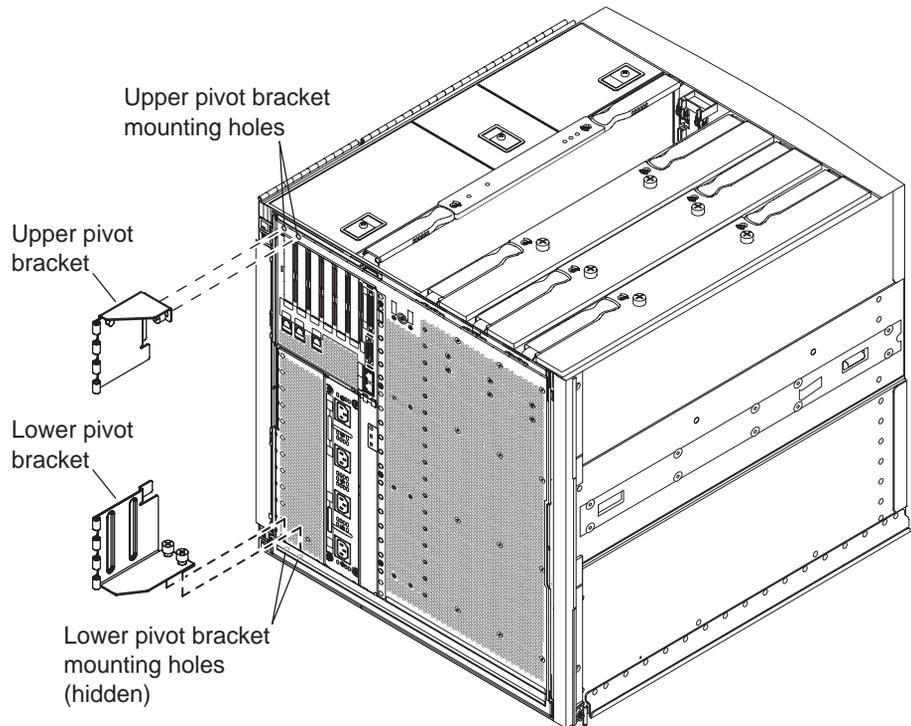
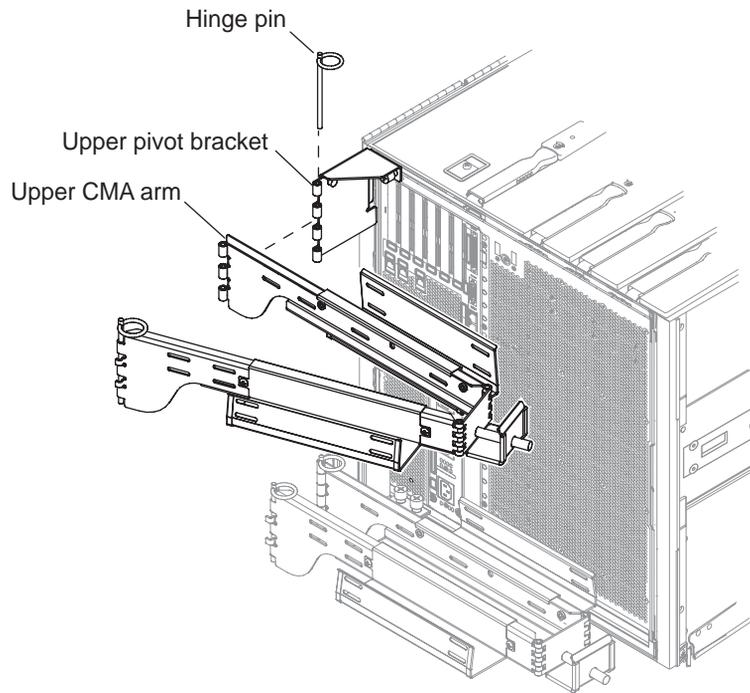
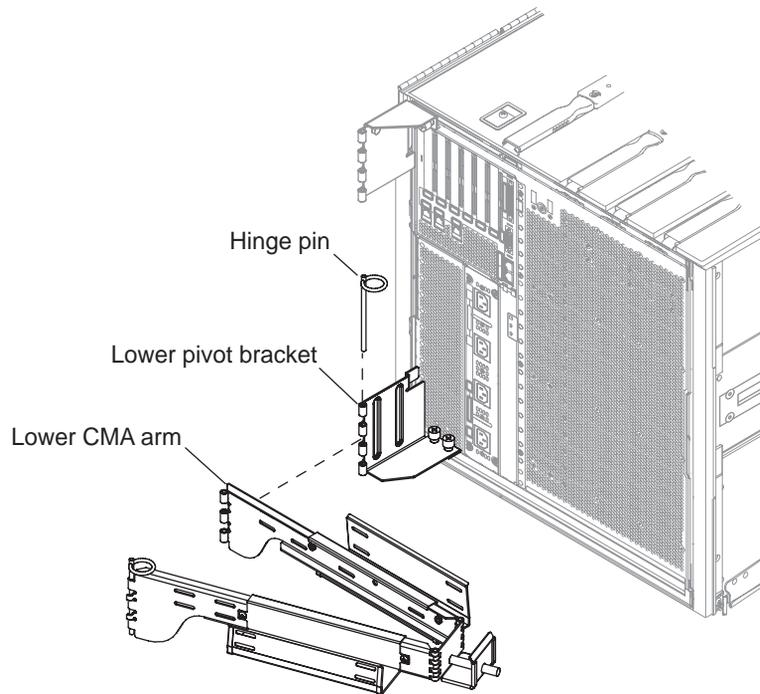

FIGURE 1-20 Upper and Lower Pivot Bracket Mounting Holes
FIGURE 1-21 Attaching the Upper CMA Arm and Pivot Bracket
FIGURE 1-22 Attaching the Lower CMA Arm and Pivot Bracket
2. Secure the pivot bracket to the upper left-hand side of the server chassis using the two captive screws. See FIGURE 1-20 and FIGURE 1-21.
- 4. Secure the pivot bracket to the lower left-hand of the server chassis using the two captive screws. See FIGURE 1-20 and FIGURE 1-22.**